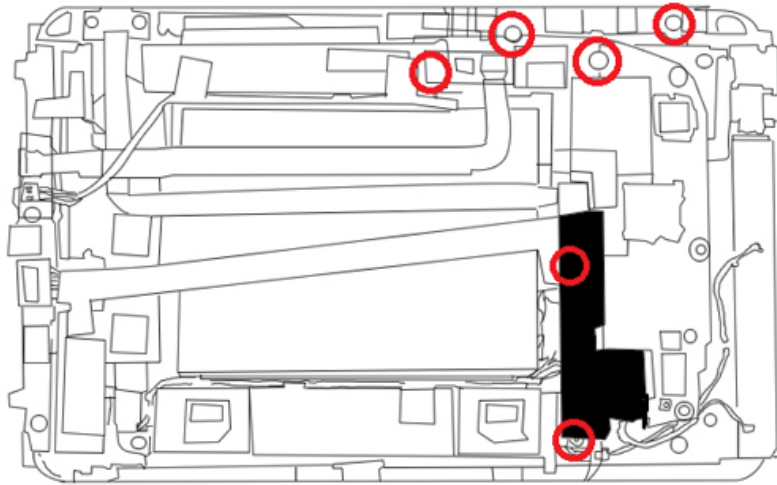

Figure 2
- All of the internal hardware is now accessible. Use a safe open pry tool to remove the tape that is covering the main connectors, as shown in Figure 2.
- Remove the six (6) Torx T5 screws holding the main board and volume button flex in place, as shown in Figure 2.